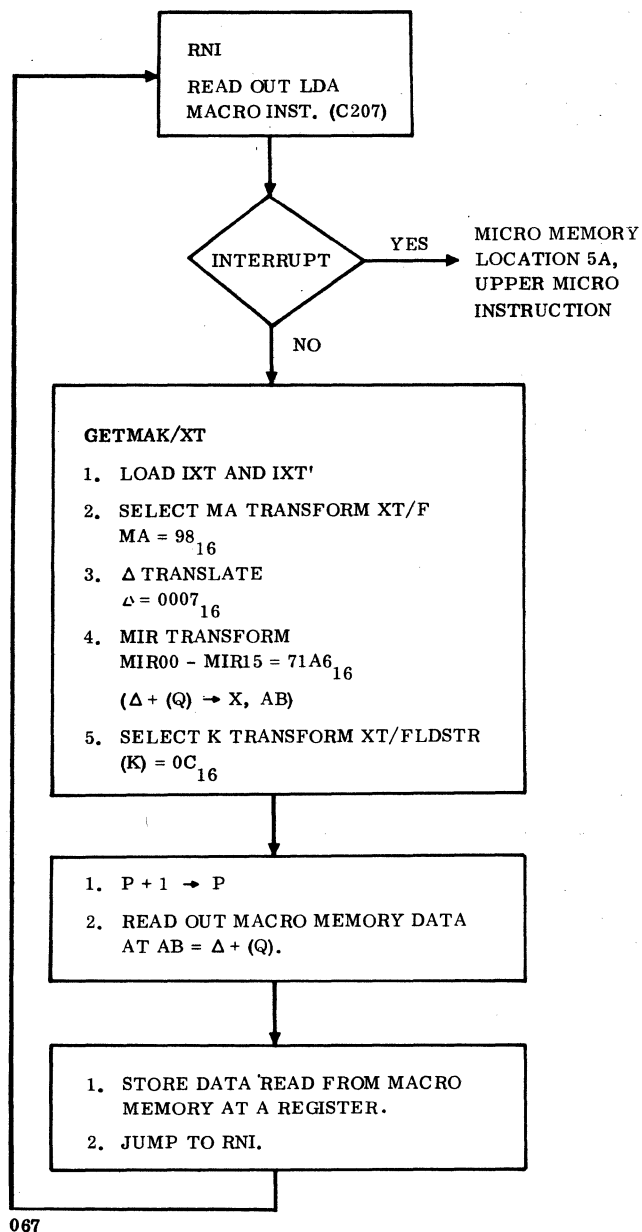

Figure 4-4. Step-by-Step Emulation of Macro Instruction LDA
To emulate certain basic and enhanced 1700 instructions, the delta field of the macro instruction figure 4-4 must be modified:
The above macro instruction loads the A register with the contents of the storage location specified by the effective address (EA). EA is Δ + (Q). Figure 4-4 shows the step-by-step emulation of this macro instruction in the form of a flow chart. Figure 4-5 lists the micro-code subroutines